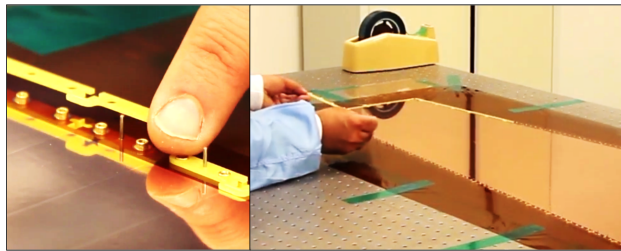

Figure 64: Mounting the 1 mm internal frames.
Step 15: Place the frames on the stack using the guiding pins. Match the shape of the grouped holes to proper position and orientate the frames (Fig. 64).